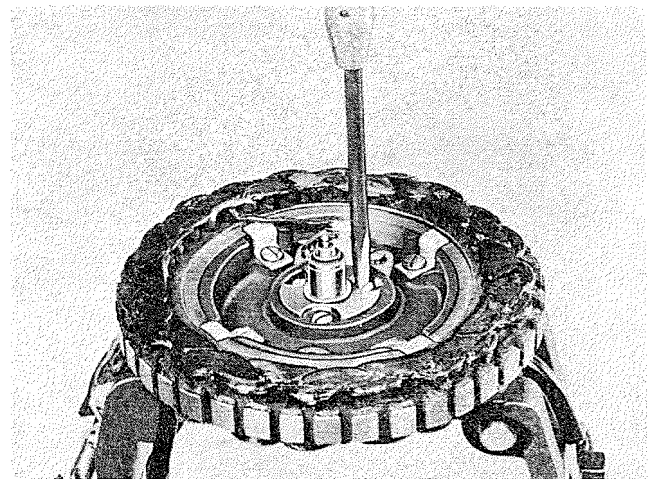

Figure 32
2. Take out the three fillister-head machine screws and lock washers (figure 32) from each of the flange contacts on the top and bottom of the vertical gimbal and remove them.